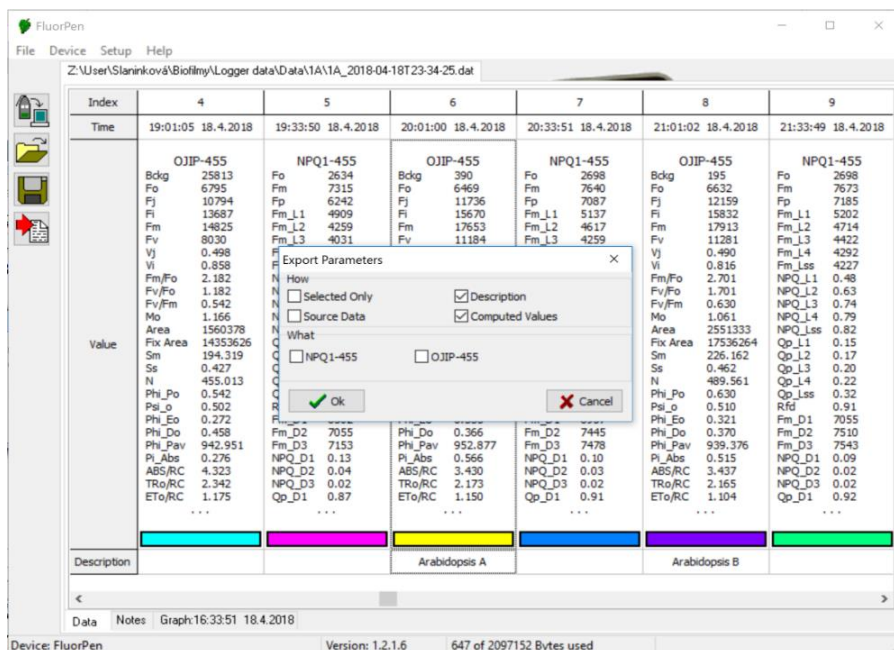

Fig. 32 Data export window.
5. To **export** data from the FluorPen software select **File > Export** or **Export** icon. Select which data should be exported (Ft, QY, OJIP...), see Fig. 32.